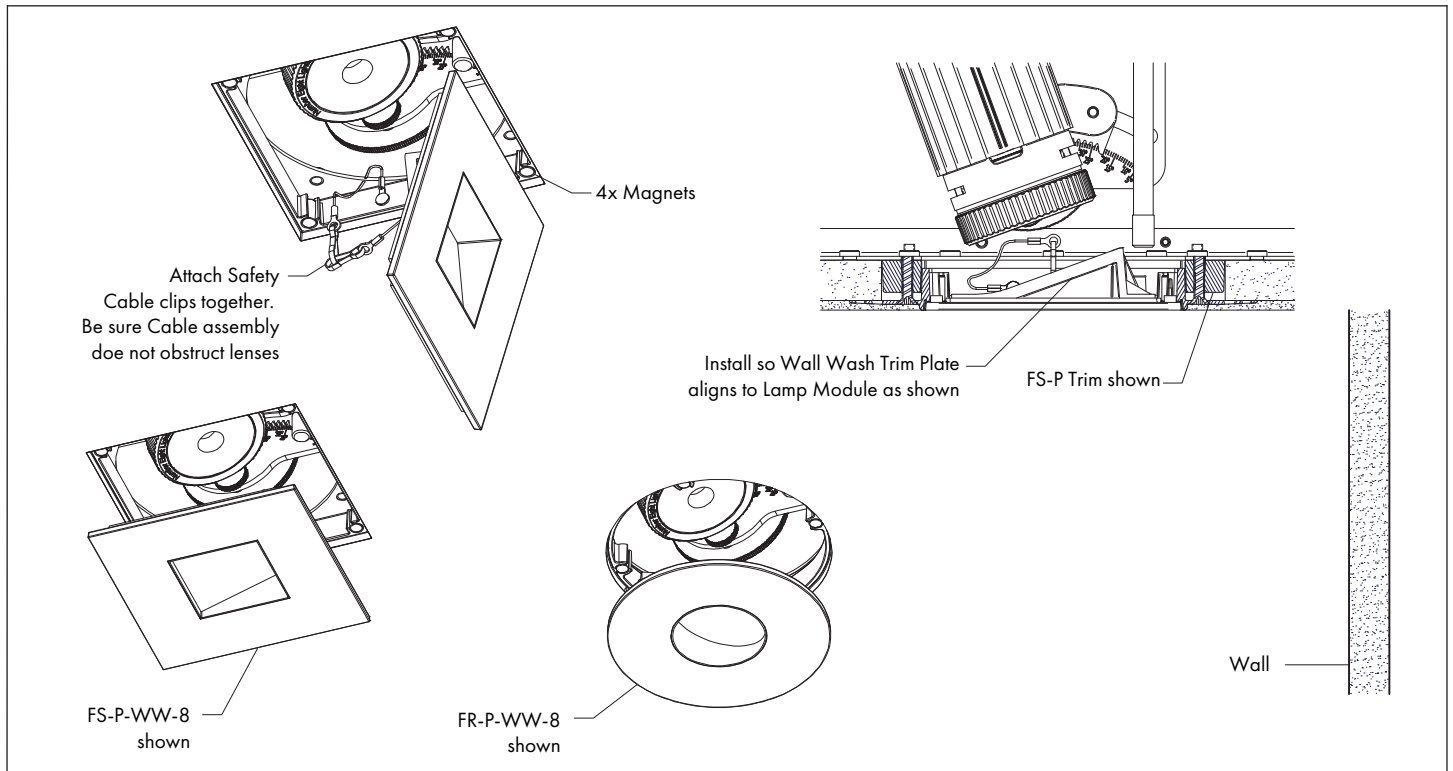

FIG 9.3 Install Wall Wash Trim Plate
STEP 3 Orient & install Wall Wash Trim Plate into Trim as shown - **FIG 9.3**.